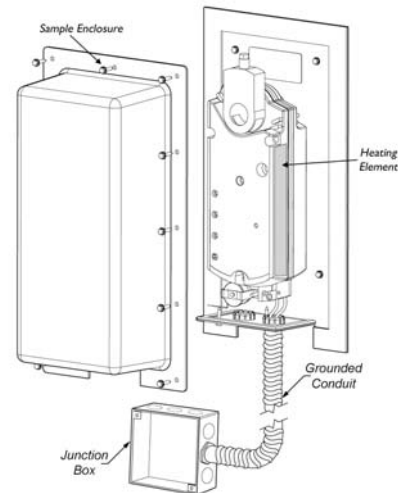

Figure 3. Heating Element Mounting Position
- All actuators with auxiliary switches must have switch wiring routed through grounded conduit. Terminations must be in a UL approved Junction Box. See Figure 3.